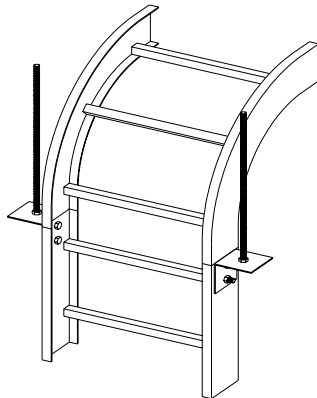

Figure 4.9A
4.2.4 Vertical Applications (See Figures 4.9A through 4.9D.)